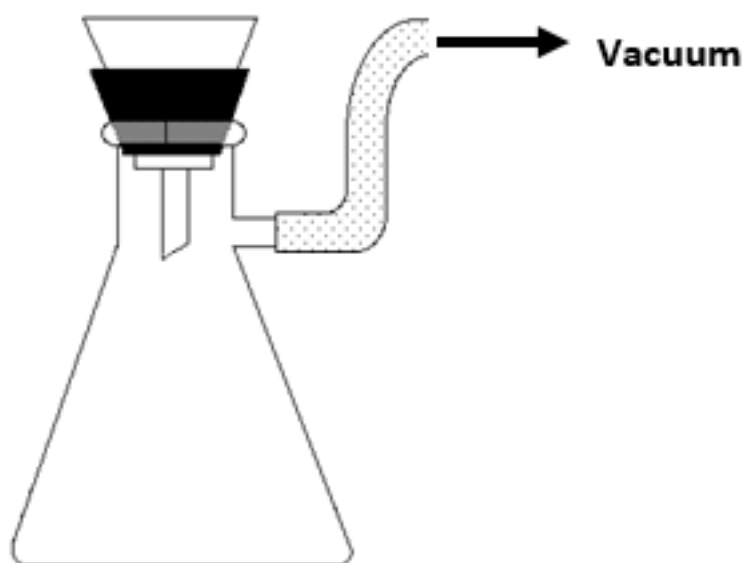

Figure 2: Filtering Apparatus
- While the crystals are forming in step 4, set up the vacuum filtration apparatus as shown in Figure 2. This apparatus consists of a 125 mL filter flask, a black #3 neoprene adapter, and a plastic filtering funnel with a white fritted glass filter inside. Clamp the filter flask securely to the support rods. Wet the tip of the thick rubber tubing and connect it to the flask from vacuum supply in the lab.